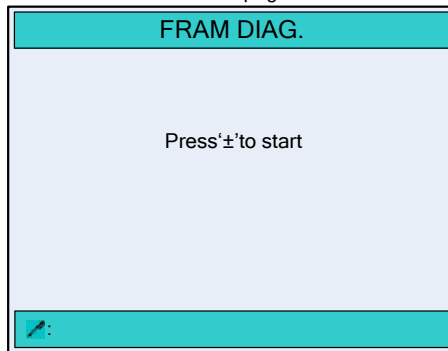

Figure 4-5 The **FRAM DIAG.** page
On the **DIAGNOSE** page, move the cursor to parameter **4.KEY DIAG.** (or press the number key 4), and press  to enter the **KEY DIAG.** page, as shown in Figure 4-5.